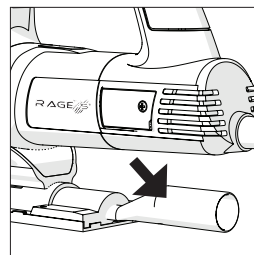

Fig 7
- Withdraw the Dust Extraction Adaptor tube, if fitted, and store safely for future installation. **(Fig. 7)**